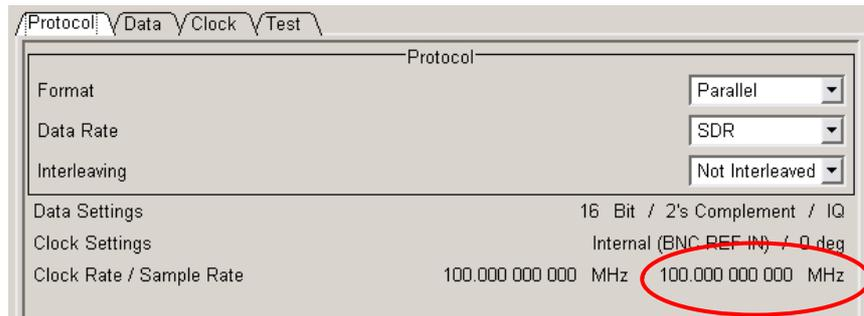

Figure 29: Where to get the Sample Rate value
- ▶ Get the required value from the *DigIConf* program's Protocol tab, see Figure 29.
As an IQ source, the R&S FSQ (like the R&S FSV) works in real time. You will find the number value that you need for the *SAMPLE RATE* in the *DigiCinf* program on the *Protocol* tab (see Figure 29 on page 30).